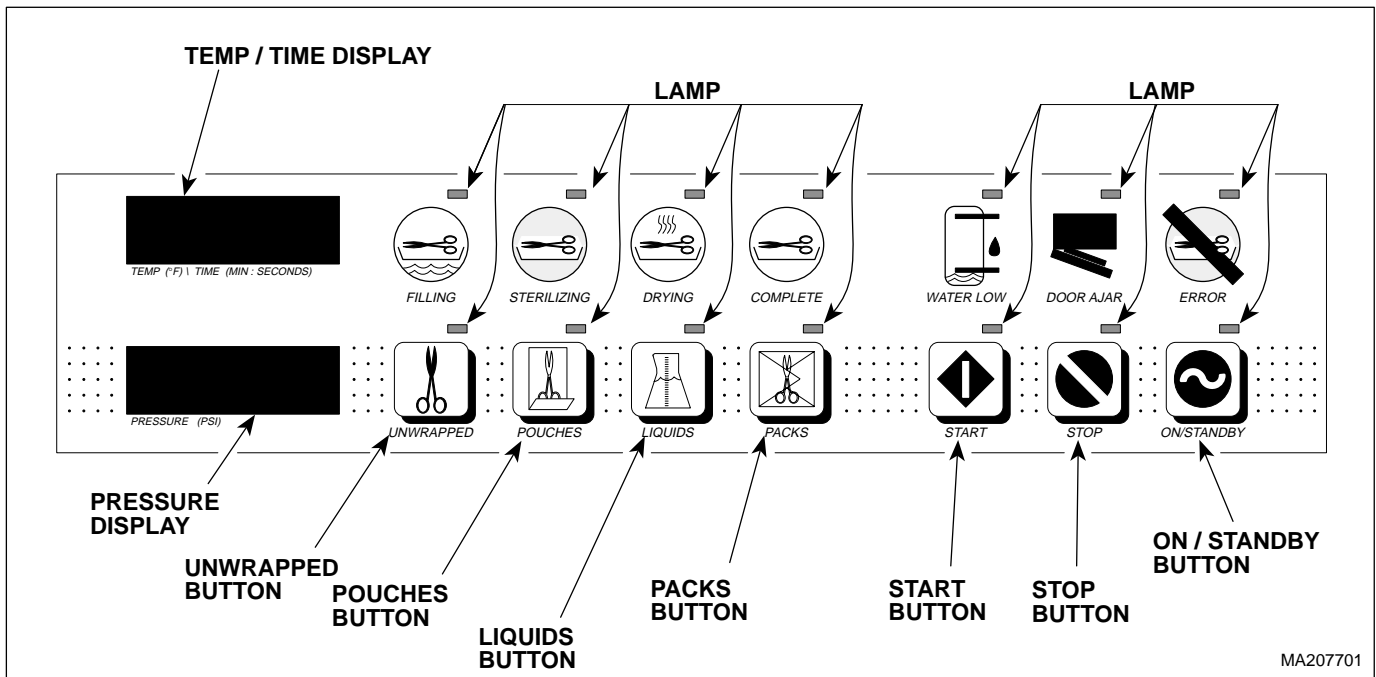

Figure 4-33. M9 / M11 Door Opening Test
- (1) Fill chamber with water. *[To do this, start any cycle. After chamber has filled with water, the Sterilizing LED will illuminate].*
- (2) Disconnect power cord.
- (3) Open door.
- (4) Press and hold **STOP & POUCHES** buttons (see Figure 4-33) while plugging in power cord.
- (5) Press and release all buttons from left to right across display panel.
- (6) Close door. *[This will activate all relays in the sterilizer in sequence. Pulse solenoid should automatically open door when test cycle is complete].*
- (7) To rerun test, repeat steps 2 thru 6.
- (8) To verify proper operation, run a complete cycle when test is complete.